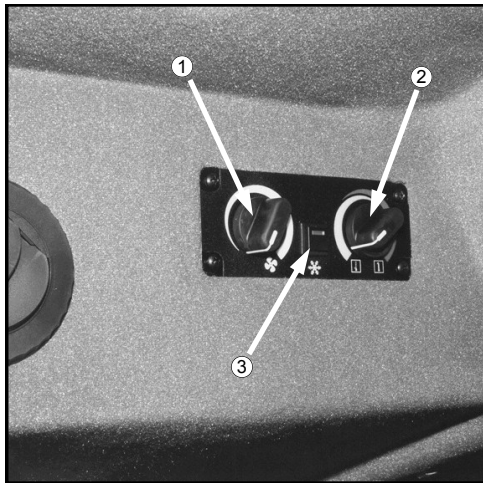

FIG 5.67
**ADJUSTING FAN BLOWER SPEED** - Fan blower speed is controlled by the left rotary dial on the cab climate control panel (fig. 5.67, item 1). The fan blower speed is a continuously variable adjustment. To increase fan speed, rotate fan blower dial clockwise. To reduce fan speed, rotate fan blower dial counterclockwise. To shut fan blower off, rotate fan blower dial all the way counterclockwise.
**ADJUSTING TEMPERATURE SETTING** - Forced air temperature adjustments are controlled by the right rotary dial on the cab climate control panel (fig. 5.67, item 2). Temperature control is a continuously variable adjustment. To increase forced air temperature, rotate temperature dial clockwise. To decrease forced air temperature, rotate temperature dial counterclockwise.
**OPERATING AIR CONDITIONING** - To activate the air conditioner, depress the air conditioning switch (fig. 5.67, item 3). Adjust fan speed and temperature accordingly.